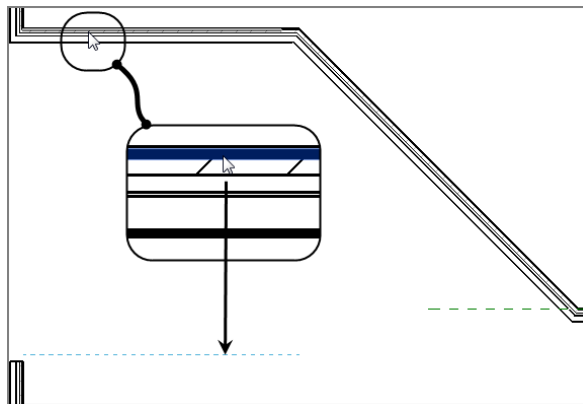

FIGURE 2.12: Adding a wall using the built-in offset function may take a few tries to get the method down.
29. Move your cursor over the outside face of the wall, as shown in Figure 2.12. When you see the alignment line appear below the wall, pick the outside face.